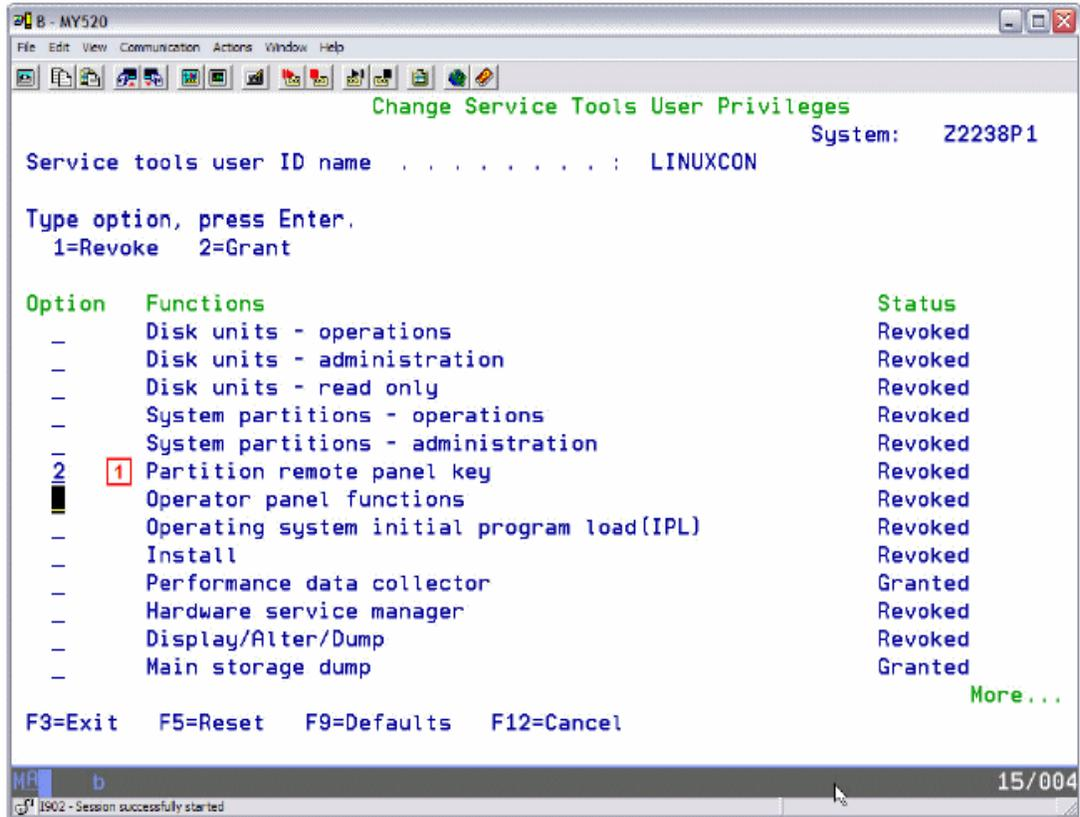

Figure 13-32 Change Service Tools User Privileges
- On the Work with Server Tools User IDs, select option 7 (Change Privileges) for the user just created as seen in Figure 13-32.